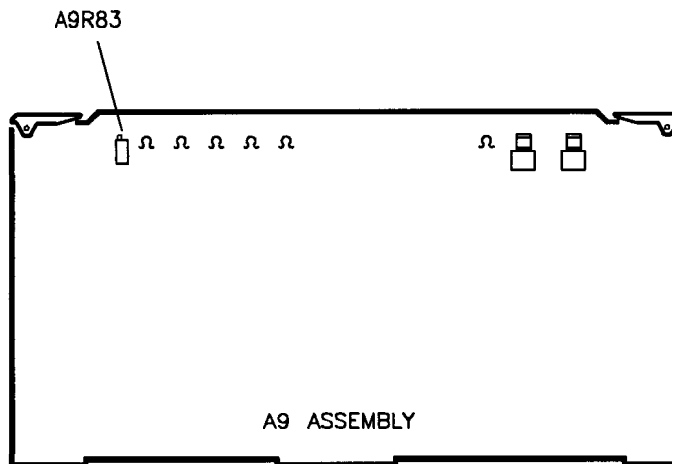

Figure 3-26. A9R85 Location
4. Adjust A9R85 MIN (see Figure 3-26) for -0.54 Vdc.